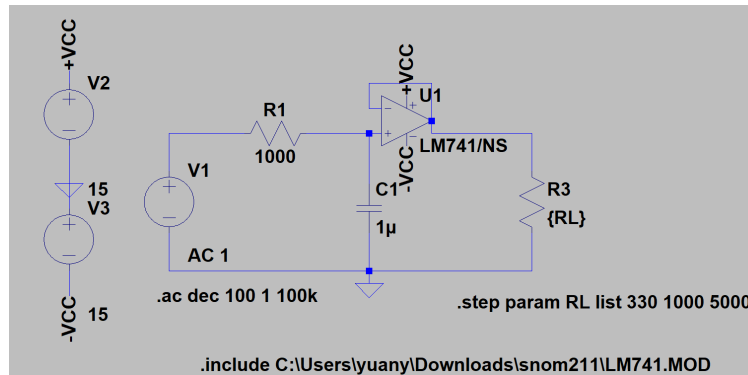

Figure 6: RC filter with Op-Amp
1. Draw the circuit shown in Fig. 6 in LTspice. (Note: It's always a good idea to draw different circuits in a new LTspice schematic in case the TA asks you to see your circuit. You can always copy and paste from an existing schematic so you don't have to draw from scratch.)
1. Draw the circuit shown in Fig. 6 in LTspice. (Note: Use the opamp2 LTspice symbol and include the .MOD file of the Op-Amp. Change the value of component to “LM741/NS”)